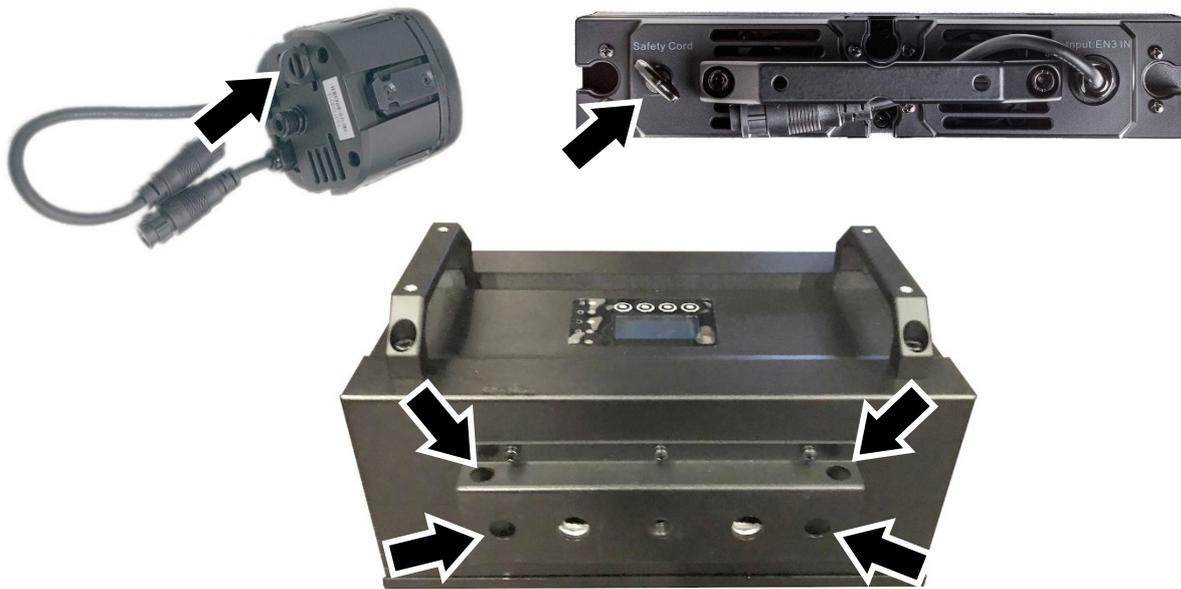

Figure 8. Safety cable attachment points
1. See Figure 8. Fasten the safety cable to the attachment point (arrowed) in the back of the fixture or PSU.